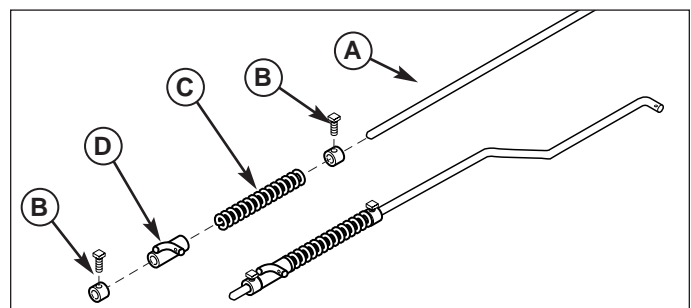

Figure 4. Assemble Lift Rod
1. Install the set collars (B, Figure 4), spring (C), and rod guide (D) on the lift rod (A) as shown. Final adjustment of the set collars will be made after the hitch and attachment are installed.